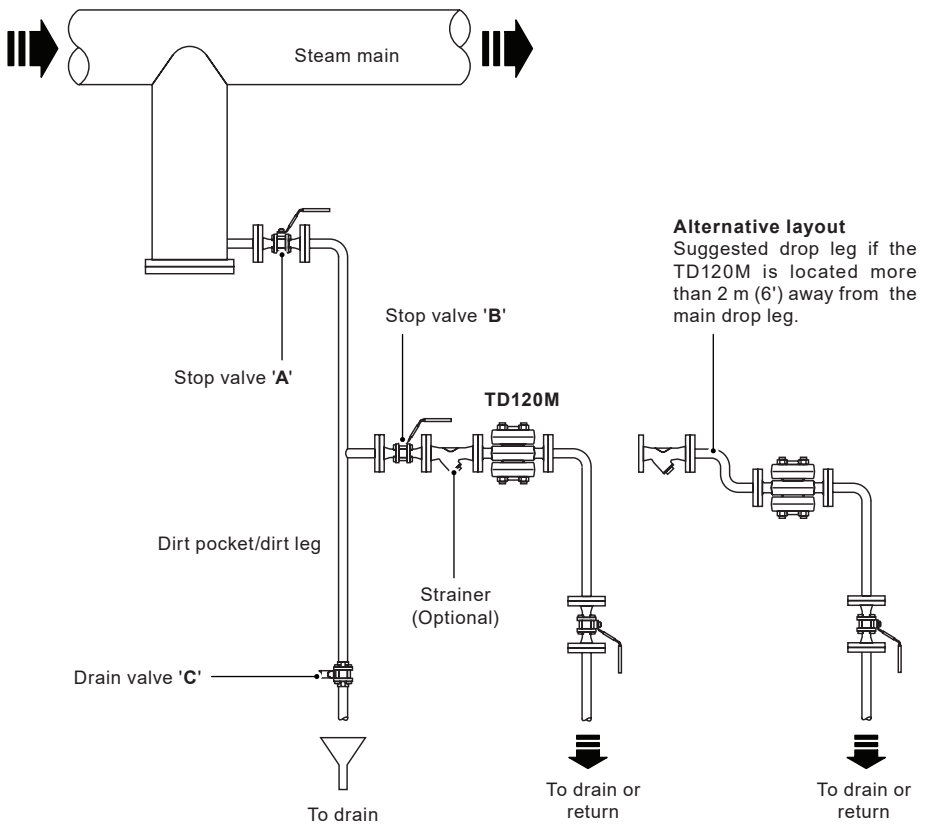

Fig. 2 Typical installation
- 3.2** Determine the correct installation situation and the direction of fluid flow. A typical installation is shown in Figure 2.
If the trap is some distance from stop valve 'A' (Figure 2), it could be possible to air lock the pipework between valve 'A' and the trap (i.e. the trap closes to air and does not readily allow steam to enter the pipework).